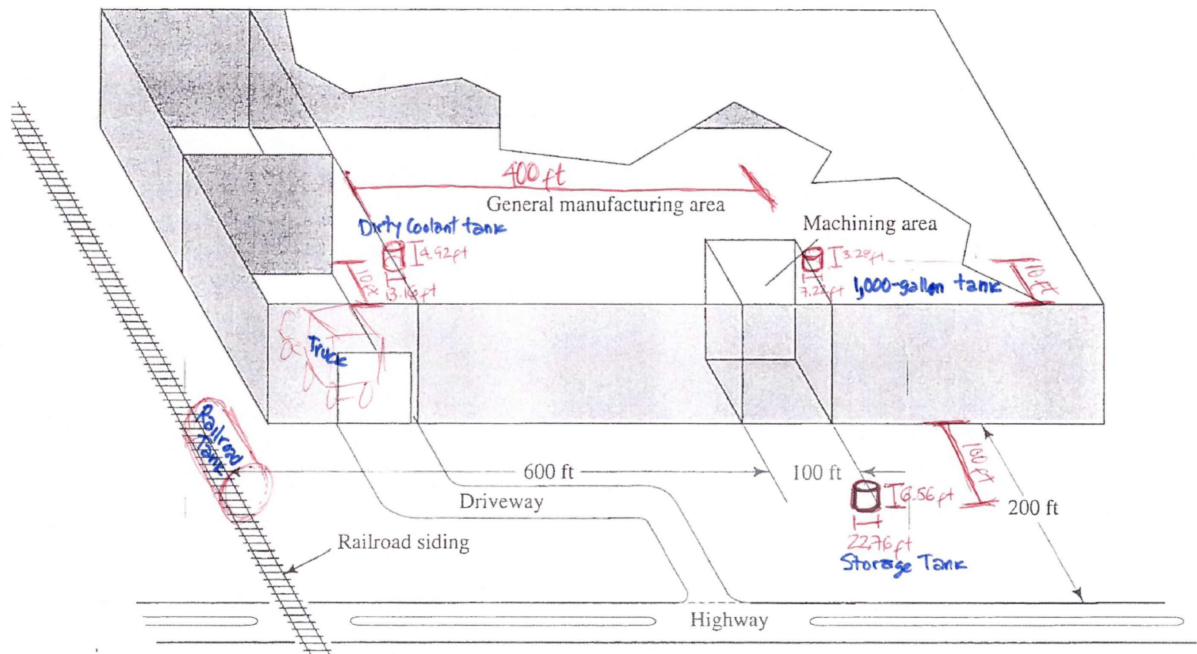
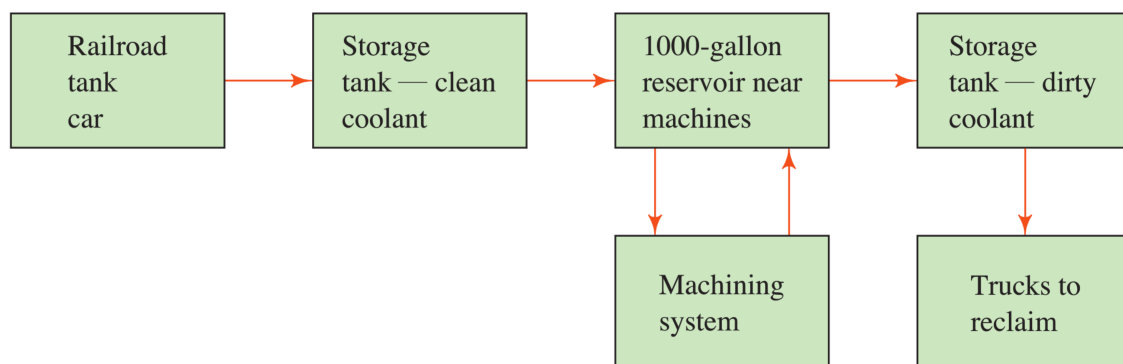

FIGURE 1. Plot plan of a hypothetical factory building for the design problem.
FIGURE 2. Block diagram of coolant system.
After the previous engineer left the consulting company, you got hired to continue his work on a project described on the next pages. The previous engineer designed the tanks and decided their locations (sketched in figure 1). You are in charge now of designing **ONLY** the pipeline of the system taking the coolant from the railroad tank to the storage tank. **The transfer must occur in not less than 6 hours.** The specific tasks you are in charge of are:
1. Specify the layout of the piping system (make a hand drawing of it). For the pipe layout consider the distances shown in figure 1 and some of the requirements (such as frost line) in the project description. Propose the material type of the pipe and its diameter. From the layout get the pipe length required. Please remember that for a pumped system, the pipe size is chosen with the critical velocity criteria and the desired flow rate. Remember the pipe size requirement by the company.
The layout of the planned facility is shown in figure 1. The following data, design requirements, and limitations are given.
17. The basic coolant storage and delivery system is to have the functional design sketched in the block diagram in Figure 2.
NOTE: Verbally explain your ideas and add images, diagrams and graphs needed to explain your solutions. As far as preliminary and final drawing, there is no need for detailed drawings, just simple high-level sketches. Hand sketches are fine, you may take a picture with your camera, phone and insert them to the document or just attach image drawn to your exam. Use appropriate number for images, diagrams and equations used (e.g Figure 1, Figure 2, etc.) for easier understanding and explain what they are in the body of the report.